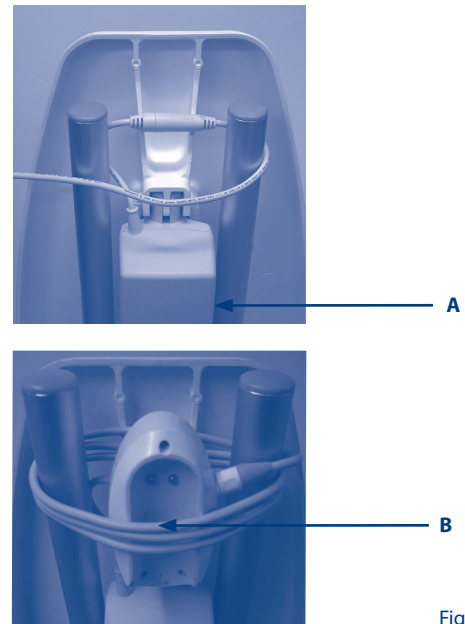

Figure 7
- **When storing the Neptune, ensure that the hand control is not dangling. See suggested storage method (fig 7).**